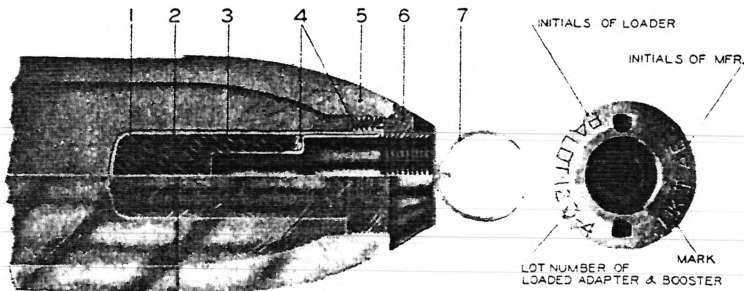

FIG. 9.—Adapter and booster, Mk. III
13. **Adapter and booster, Mk. III.**—The adapter and booster, Mk. III, is used in the 75-mm. high-explosive shell, Mk. I. Figure 9 shows this adapter and booster, and gives the names of the principal parts, together with the stamping identifications. A fuze socket protects the booster charge from moisture. As fuzes are never assembled in the shell until the round is to be used, an adapter plug is supplied which acts as a protection against the entrance of foreign
14. **Adapter and booster, Mk. III-B.**—The adapter and booster, Mk. III-B. is used in the 75-mm. high-explosive shell, Mk. IV. It is identical with the Mk. III, except that the diameter of the flange of the adapter is made smaller to fit the Mk. IV shell. Figure 9 shows this adapter and booster, and gives the names of the principal parts, together with the stamping identifications.